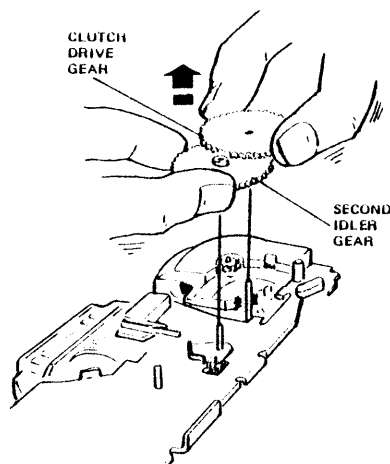

FIGURE 4-15
2. Replace the second idler gear and clutch drive gear (see Figure 4-15).